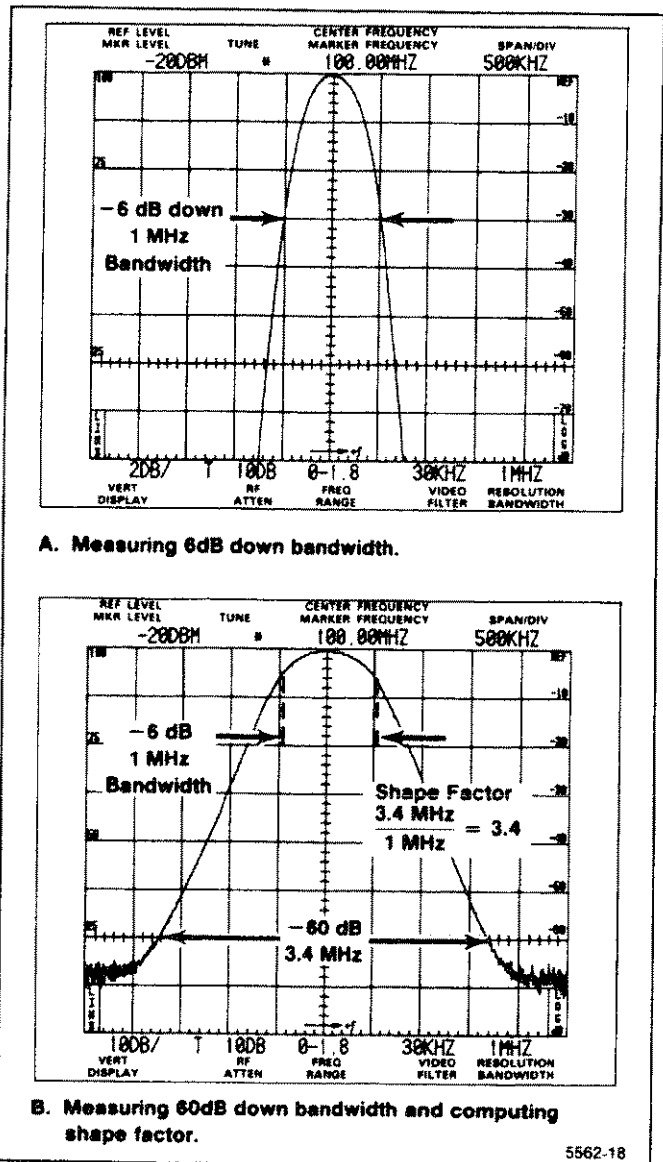

Figure 5-5. Displays that illustrate how bandwidth and shape factor are determined.
d. Calculate the shape factor as the ratio of -60 dB/-6 dB bandwidths (see Figure 5-5). Shape factor should equal 7.5:1 or less.